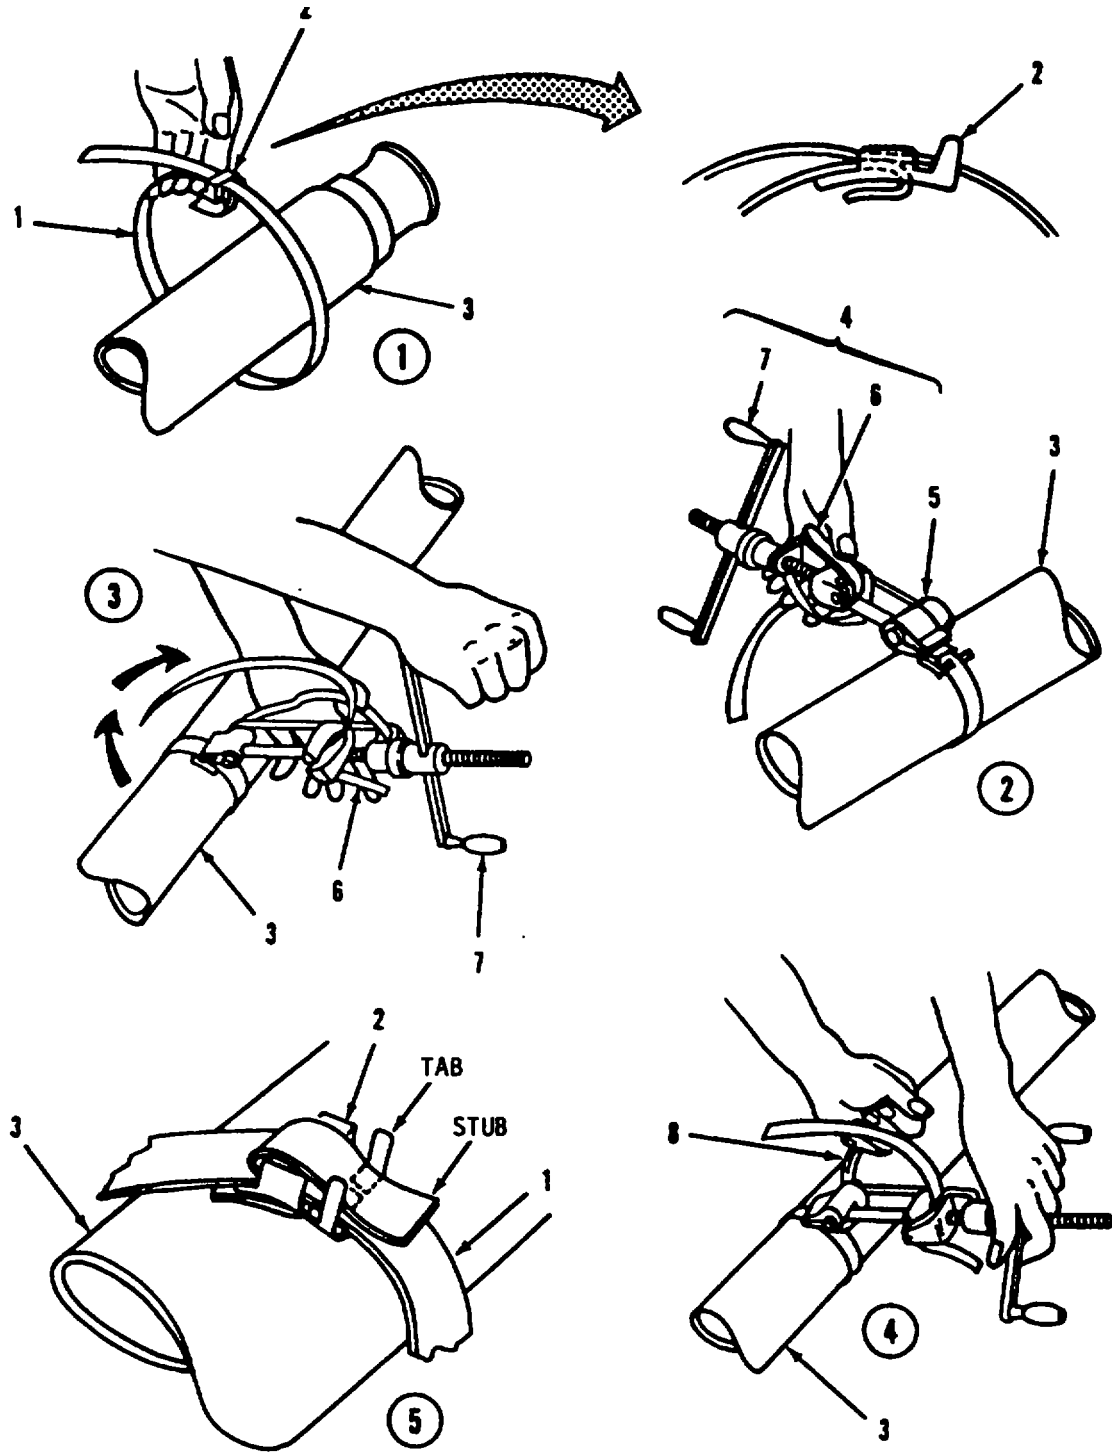

Figure 4-5. Strapping and Seal Installation
- (2) Cut a piece of strapping (1, Figure 4-5) 36 inches long.
- (3) Slide seal (2) onto strapping (1) as shown. Bend end of strapping under seal.
- (4) Wrap other end of strapping (1) around hose (3) and through seal (2). Position strapping on hose about 1 inch from end of hose.
- (5) Wrap another loop of strapping (1) around hose (3) and through seal (2).
- (6) Position strapping (1) in slots of clamping tool (4). Tool nose (5) should fit snug against seal (2).
- (7) Apply pressure to gripper lever (6) and turn handle (7) until strapping (1) is snug. Tool will lock in place when correct tension is applied. Reposition tool as required.